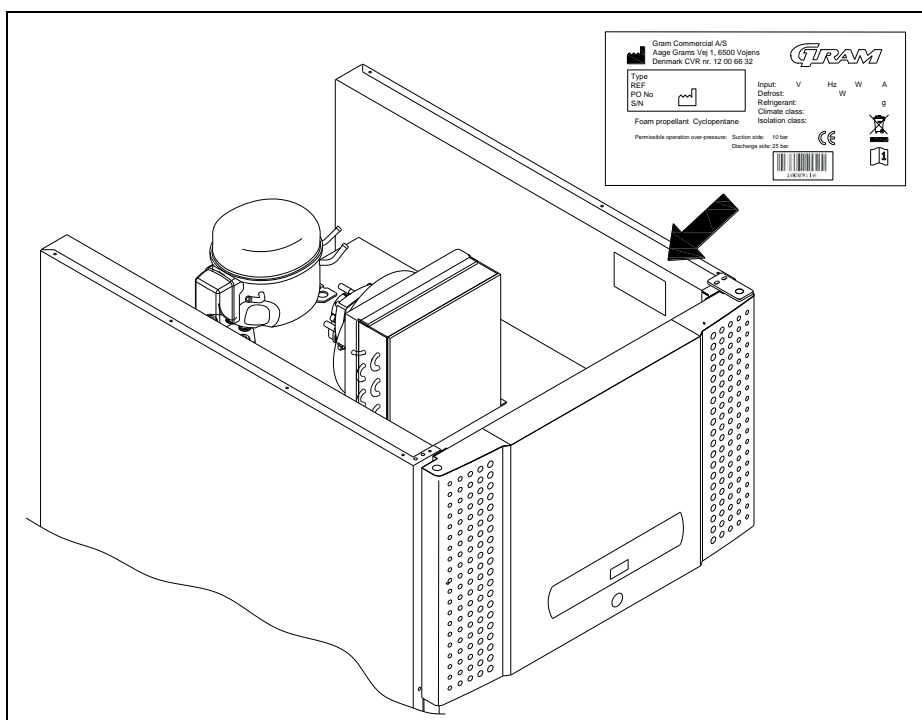
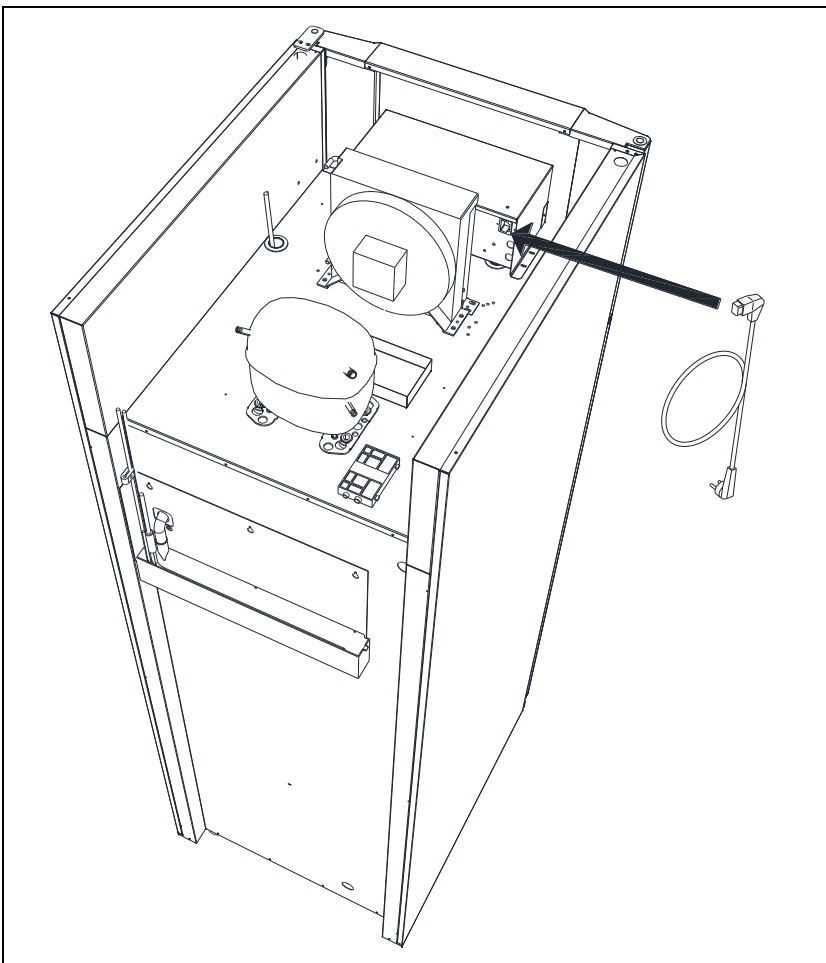

Fig. 9
Fig. 6
The cabinet is intended for connection to alternating current. The connection voltage (V) and frequency (Hz) are shown on the name plate in the cabinet (see Fig. 9). Only the supplied detachable cord is to be used (see Fig. 6).